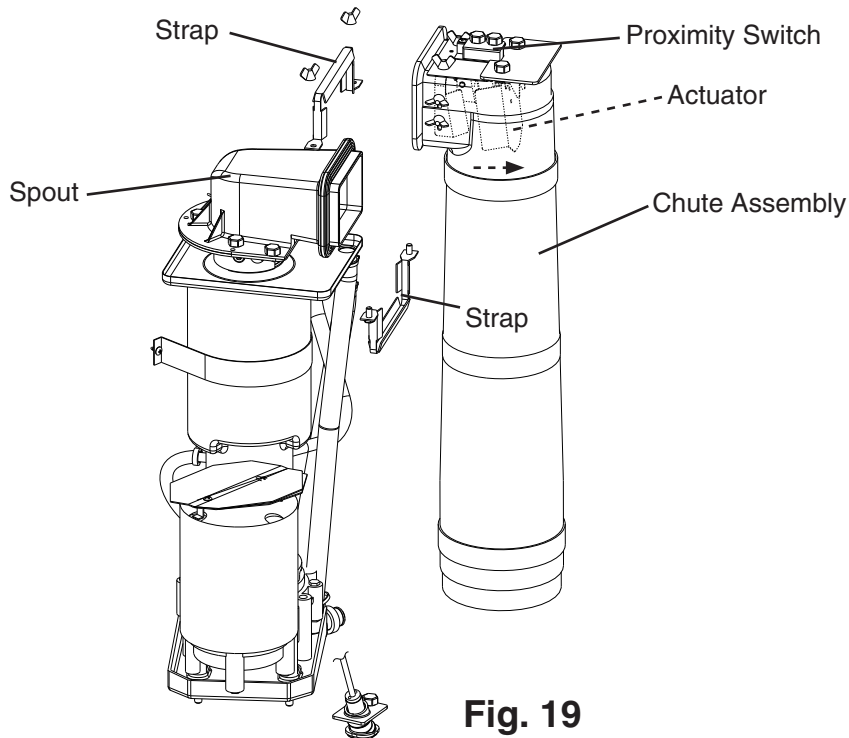

Fig. 19
- 2) Remove the strap connecting the spout to the chute assembly. See Fig. 19. Pull up the chute assembly slightly so that you can access the actuator located in the top of the chute.